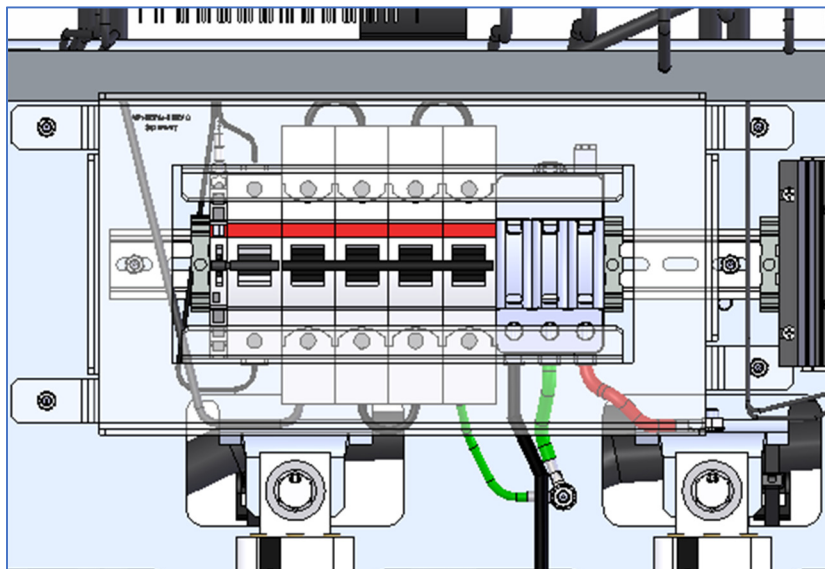

Fig. 5-1. GFDI BREAKER IN THE XGI 1500-1MW INVERTER
4. Turn OFF the GFDI breaker (see Fig. 5-1.)